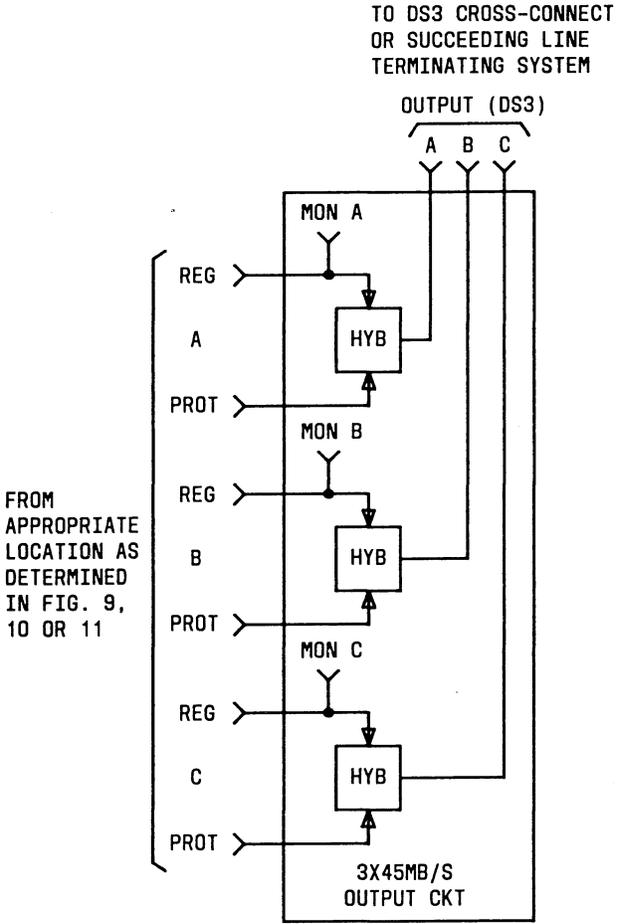

Fig. 16—Receive Interface Unit
- Figure 16—Receive Interface Unit.